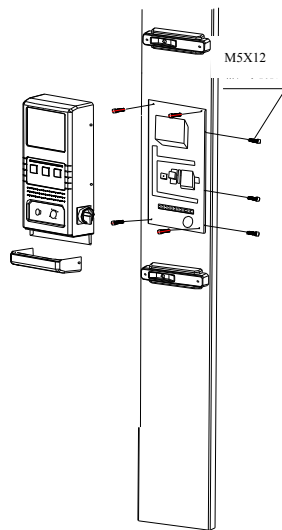

Fig. 11
- Install the electric control box casing to the base plate of control box and use M5x12 screw to fix the electric control box casing onto the back cover of the column.(Fig.11)